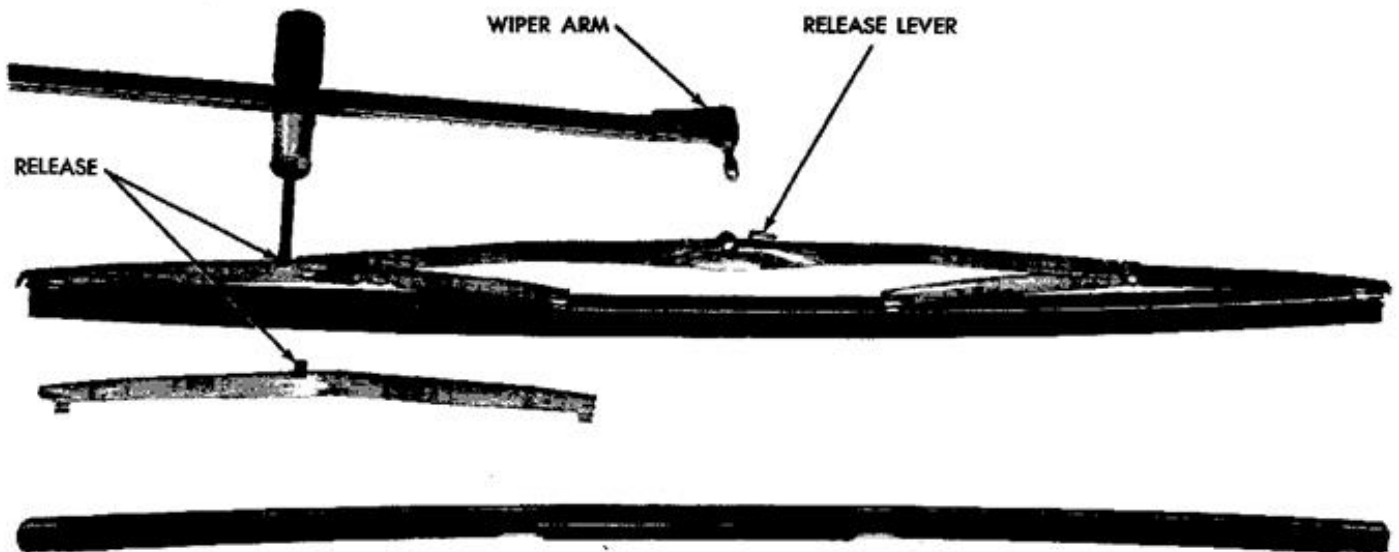

Fig. 63—Windshield Wiper Blade Replacement
(1) Turn wiper switch "On", position blades to a convenient place by turning the ignition switch "On" and "Off".
(2) Lift wiper arm to raise blade off of glass.
(3) Depress release lever on center bridge and remove blade from arm (Fig. 63).
(4) Depress release on end bridge (either button or lever) with screwdriver to release from center bridge.
(5) Withdraw rubber wiping element from the end bridges.